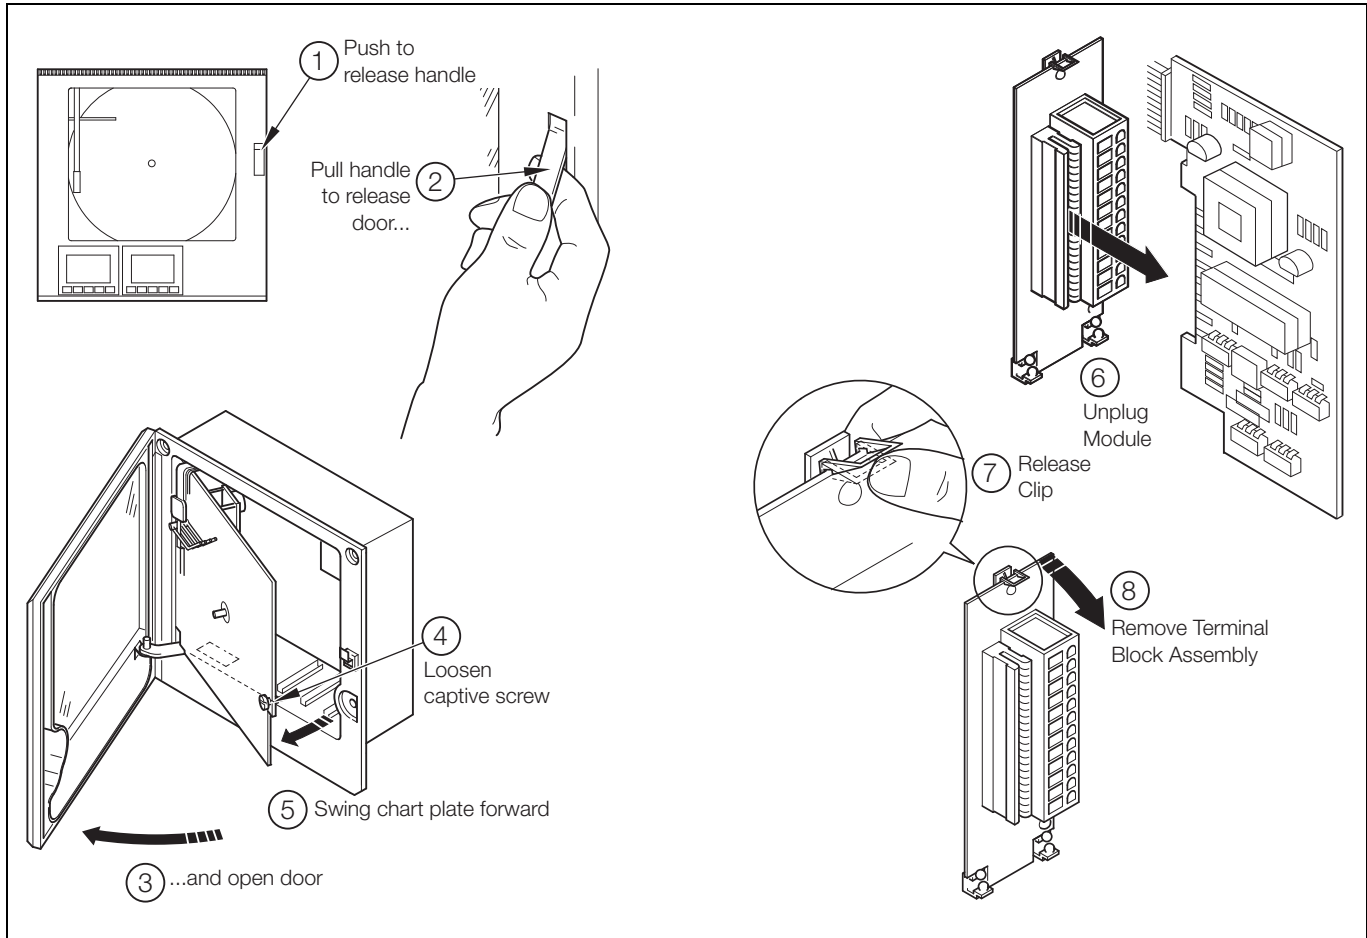
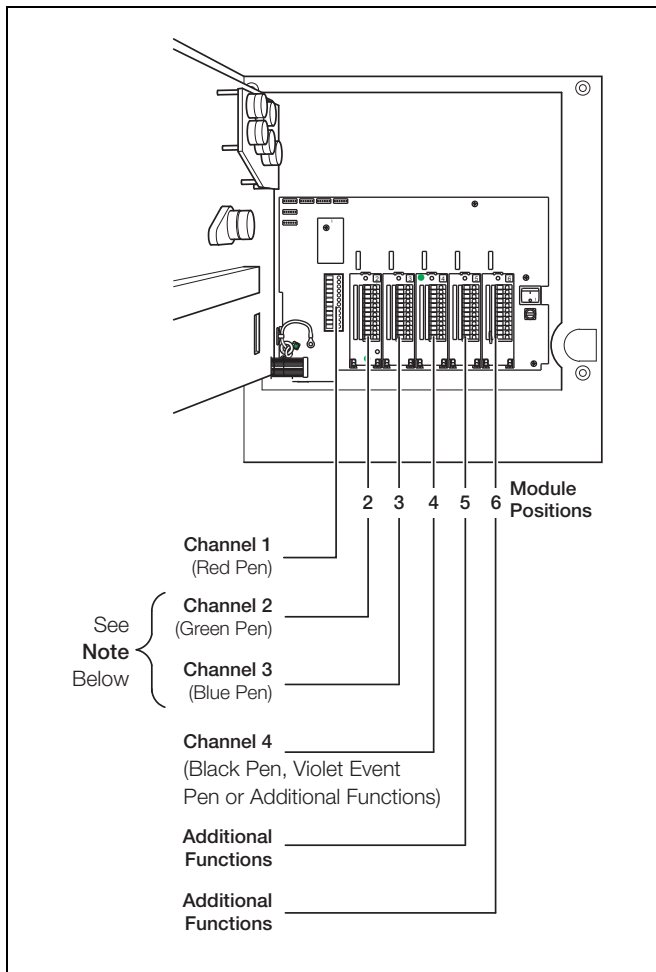

Fig. 5.1 Removing Terminal Block Assembly
Fig. 5.2 Module Positions and Functions
- The terminal blocks can be removed from the main PCB when making connections – see Fig. 5.1 on page 64. Before removing a module, note its position.
To gain access to the modules, open the door and chassis – see Fig. 5.1 on page 64. There are five module positions (2 to 6) as shown in Fig. 5.2.
Other Channel connections are made to standard I/O modules, fitted in positions 2, 3 or 4 – see Fig. 5.2.